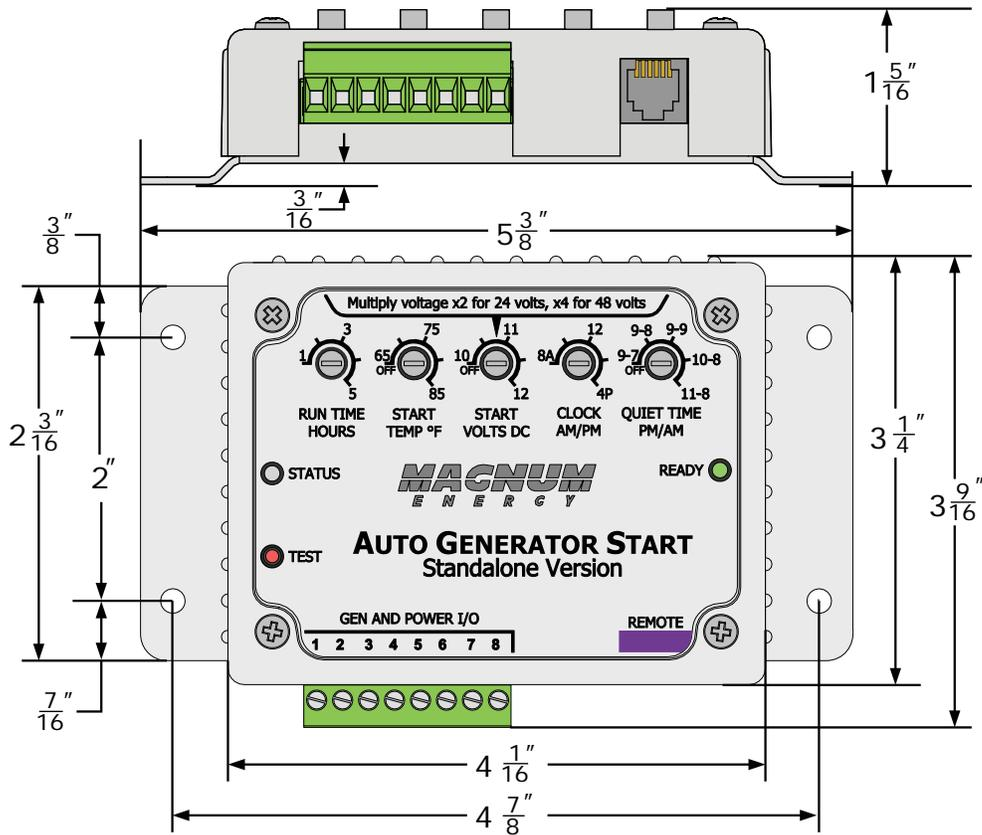

Figure 2-2, Controller Dimensions
1. Select a location that is clean, dry, and protected from extreme temperatures to mount the controller. Wiring is much easier if the controller is mounted within easy access to the generator's remote switch wiring. Refer to Figure 2-2 for the controller's dimensions.